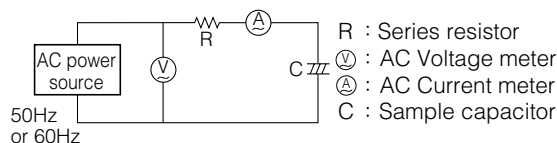

Fig. 2-5
(1) In the circuit shown in Fig.2-5 a series resistance "R" is selected from Table 2-1 in accordance with the nominal capacitance of the capacitor to be tested.